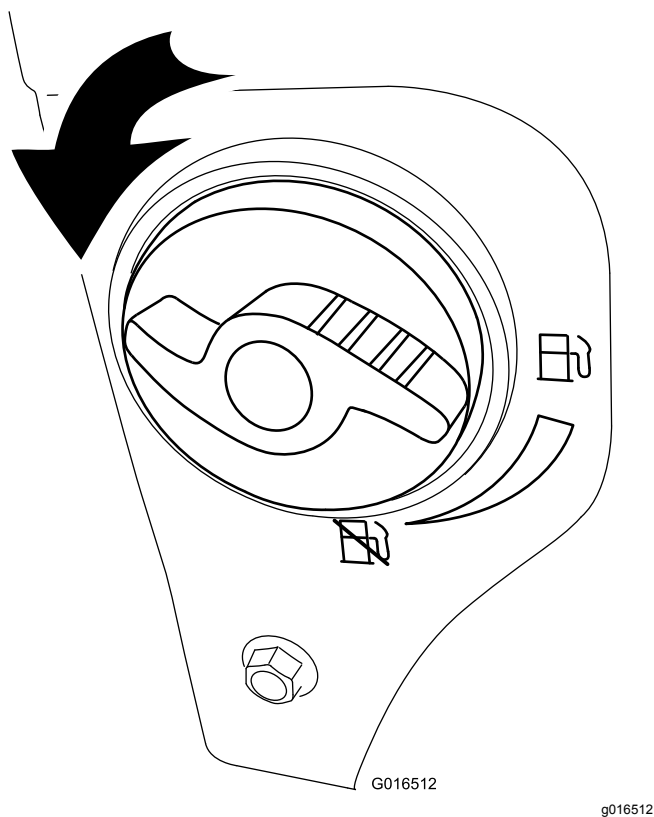

Figure 21
2. Turn the fuel-shutoff valve 1/4 turn counterclockwise to open it (Figure 21).